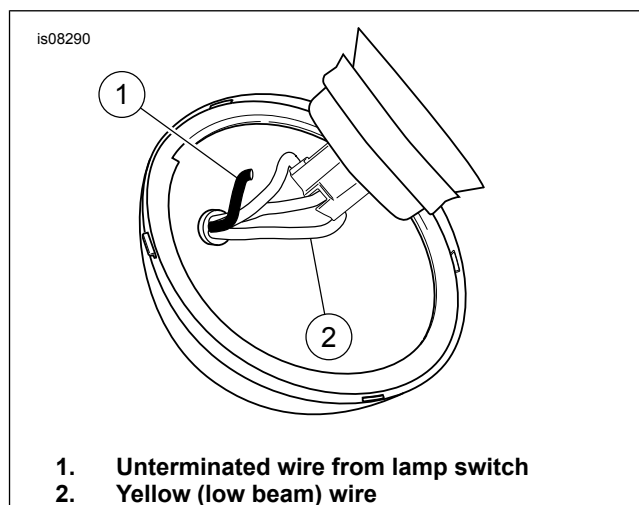

Figure 8. Splice the Underminated Wire from the Switch to the Headlight Yellow (Low Beam) Wire
18. See Figure 8. Route the unterminated wire (1) from the switch through the grommet into the headlight housing. Splice it to the yellow (low beam) wire (2) using the Scotchlok® electrical connector (Item 14) from the kit.